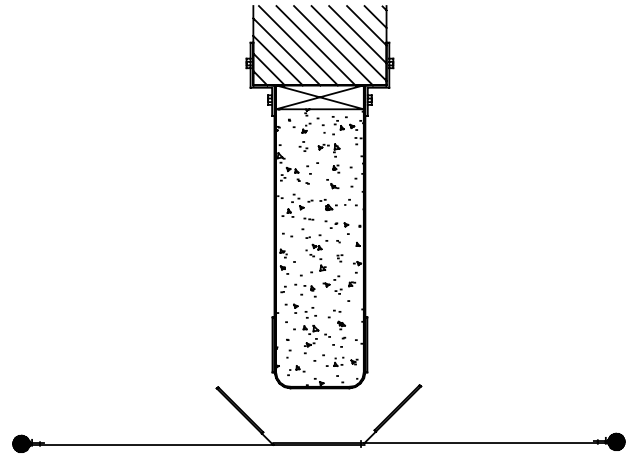

FIGURE 3
1. Align top edge of side curtain to top edge of side frame at the same time aligning one of the hook and loop flaps on the inside of the side curtain to the other hook and loop flap on the inside of the side frame on the same side. (See Figure 3)